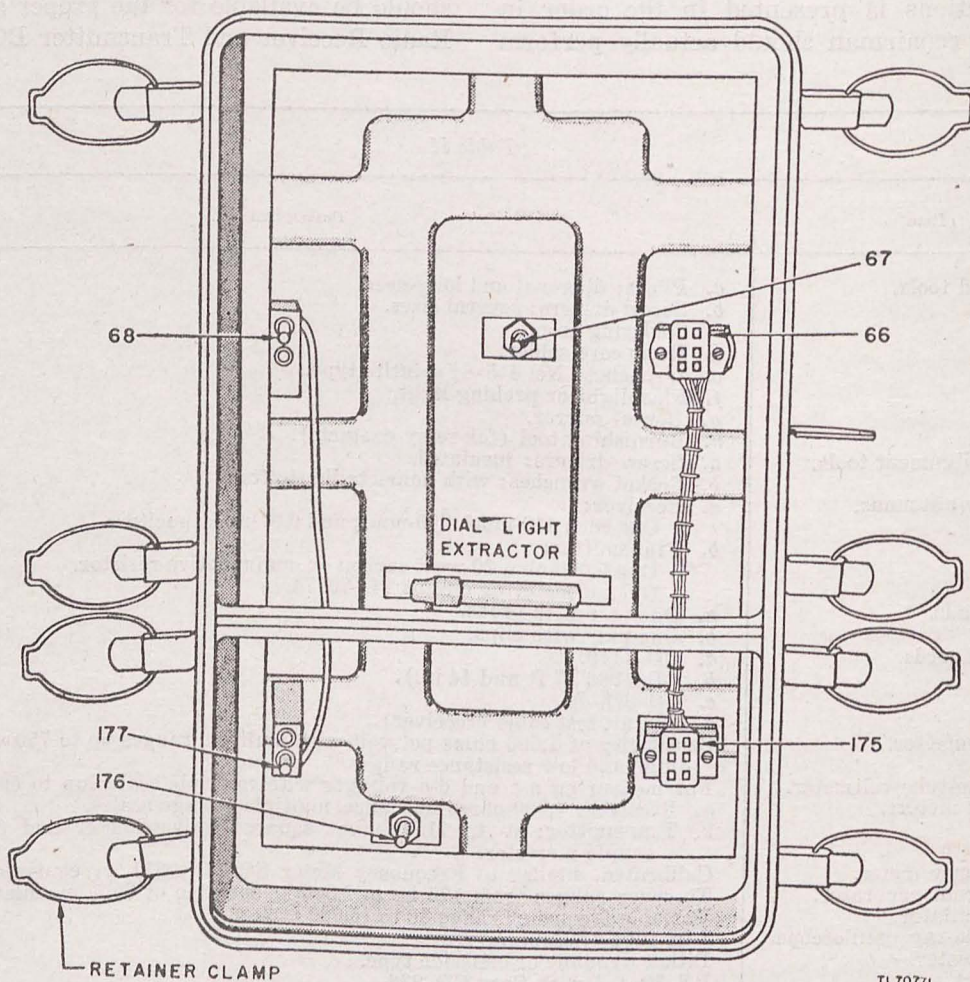

Figure 4. Case components of Radio Receiver and Transmitter BC-1306.
clamps on each side of case, and remove receiver from case by pulling forward. (See fig. 4.)
d. **DIAL LIGHT.** Use the dial light extractor furnished with the set (the extractor is clamped to the interior of the case back of the receiver unit, and is readily accessible when the receiver is out of the case). (See fig. 4.) Push the dial light extractor over the bulb, turn bulb counter-clockwise and pull it out of socket.
a. **CLEANING.** Thorough cleaning of the receiver is necessary to insure optimum performance and to prevent corrosion, rust, and dirt from damaging parts or causing arc-over or low-resistance leakage between high-voltage points and ground. Remove loose dust and dirt with a brush or blower. Remove dirt or grease which adheres to the chassis or parts with a brush or cloth and dry-cleaning solvent (SD). Remove dust or dirt between plates of the ganged tuning capacitors with a pipe cleaner and blower. Clean tuning capacitor bearings and rotor-grounding springs with dry-cleaning solvent (SD). Clean rusted or corroded spots on chassis with solvent, dry cleaning applied with cloth, or with fine sandpaper. Clean contact-making parts of sockets, power plug, antenna jack, ground jack, switches, and phone jacks with dry-cleaning solvent (SD), applied with a rag or pipe cleaner.
a. **TUBES.** Clean pins of each tube with dry-cleaning solvent (SD) applied with brush and, for heavier corrosion, use crocus cloth applied with care. Inspect tube for bent pins, also internal and external breaks. Shake the tube to